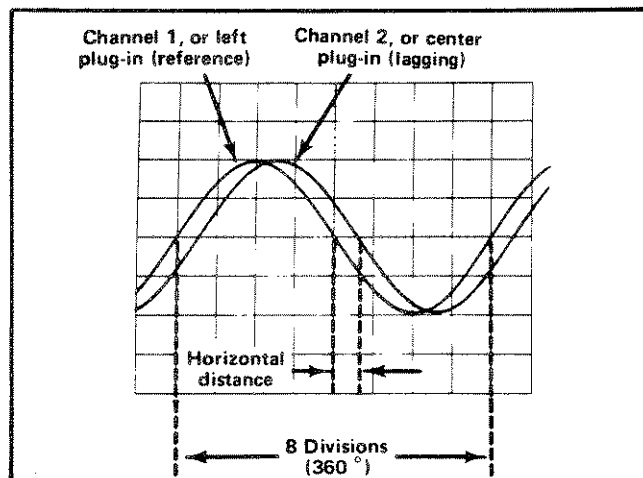

Fig. 1-11. Measuring phase difference.
9. Turn the variable Sec/Div control until one cycle of the reference signal (Channel 1, or left plug-in) occupies exactly eight divisions between the second and tenth vertical lines of the graticule (see Fig. 1-11). Each division of the graticule represents 45° of the cycle ($360^\circ \div 8 \text{ divisions} = 45^\circ/\text{division}$). The sweep rate can be stated in terms of degrees as $45^\circ/\text{division}$.
EXAMPLE: Assume a horizontal difference of 0.6 division with a sweep rate of $45^\circ/\text{division}$ as shown in Fig. 1-11. Use the formula:
EXAMPLE: If the sweep rate were increased 10 times with the magnifier, the magnifier sweep rate should be $45^\circ/\text{division} \div 10 = 4.5^\circ/\text{division}$. Fig. 1-12 shows the same signals as used in Fig. 1-11, but with the Swp Mag button pushed in. With a horizontal difference of six divisions the phase difference is: